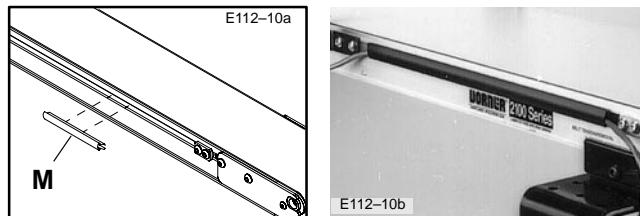

Figure 10: T-slot Cover Strip Mounting Detail
- To contain a long run of wiring cable in the conveyor T-slot channel, use several short lengths of T-slot Cover Strips (M) (Figure 10). Or, to completely contain a long run of cable, purchase T-slot Cover Strip (645656P) at length required.